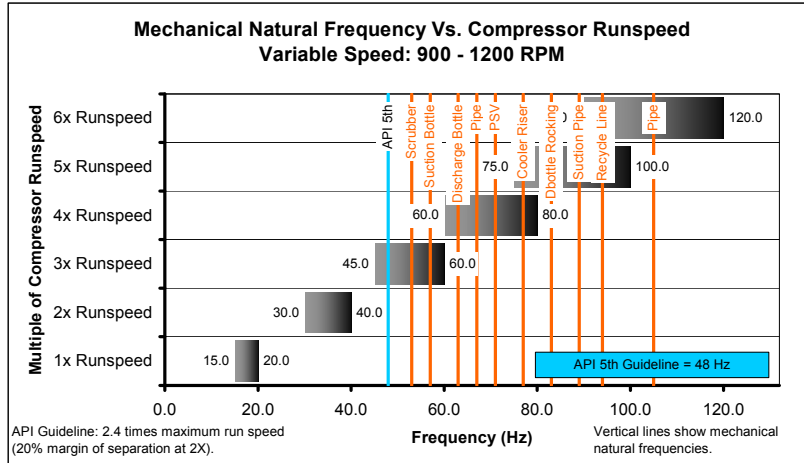

Figure 3.5: MNF vs. Compressor Run Speed
- for 1x and 2x compressor run speeds, the goal is to shift the MNFs above 2.4 maximum run speed. This is guideline is especially important for variable speed units. Figure 3.5 illustrates this guideline (see blue line at 48 Hz).